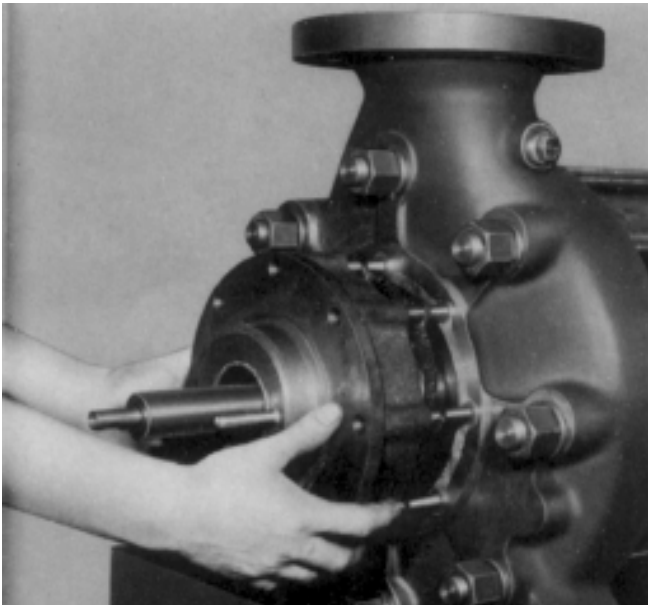

Fig. 66 Mounting the stuffing box housing.
2. Mount stuffing box housing (451) with flat gasket (400.3). In the case of pumps equipped with cooled stuffing boxes, mount the stuffing box housing (451) together with cooling compartment cover (165). (see Fig. 66)